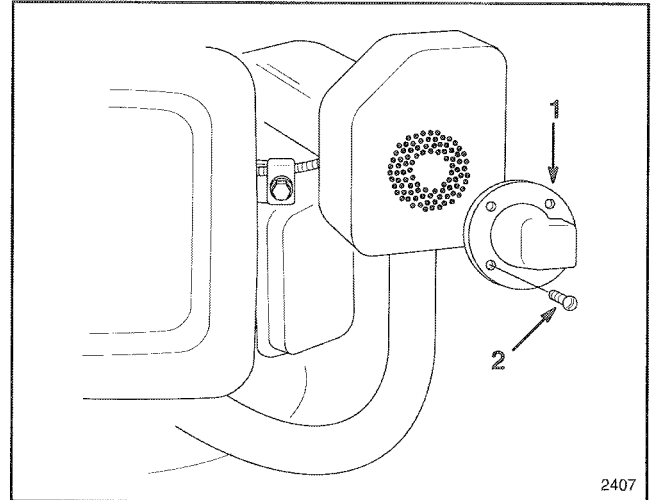

Figure 10
Mount exhaust deflector to muffler, using four mounting screws (Fig. 10).
5. Wipe end of dipstick with clean rag and screw it onto the filler neck. Then unscrew the dipstick and check level of oil by reading the dipstick (Fig. 10). If level of oil is low, add only enough oil to raise level to FULL mark on dipstick. **DO NOT ADD OIL SO LEVEL RISES ABOVE FULL MARK BECAUSE ENGINE COULD BE DAMAGED WHEN IT IS STARTED.**